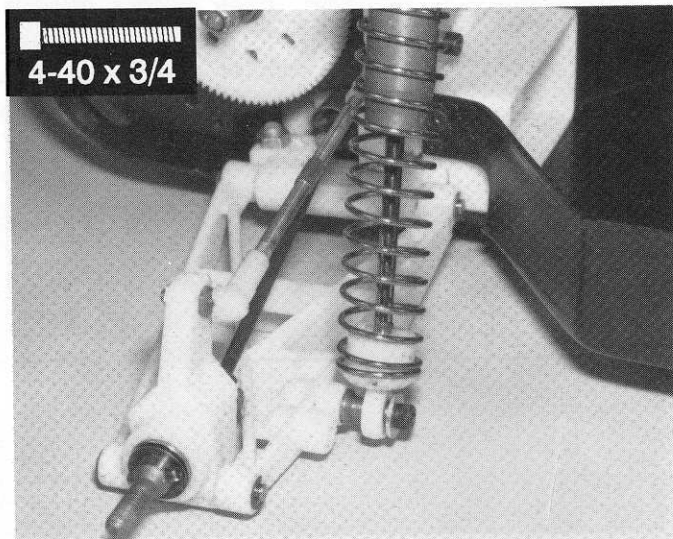

Fig. 127
□ **Fig. 127** From Bag 7-9 install the shaft end of the rear shock in the center hole in the A-arm using a 4/40 x 3/4" SHCS screw and an aluminum washer, as shown. Do the left hand side.